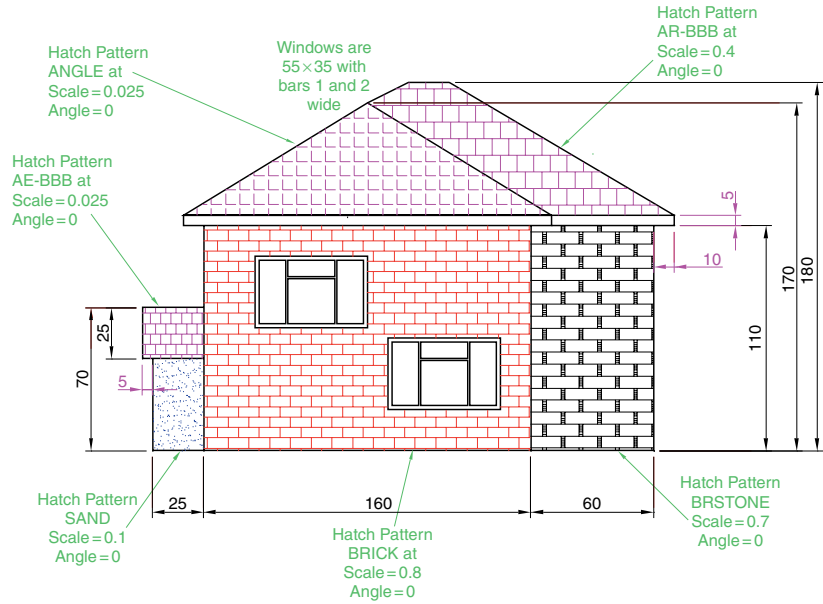

Fig. 8.24 Exercise 5
- Working to the notes given with the drawing in Fig. 8.24, construct the end view of a house as shown. Use your own discretion about sizes for the parts of the drawing.